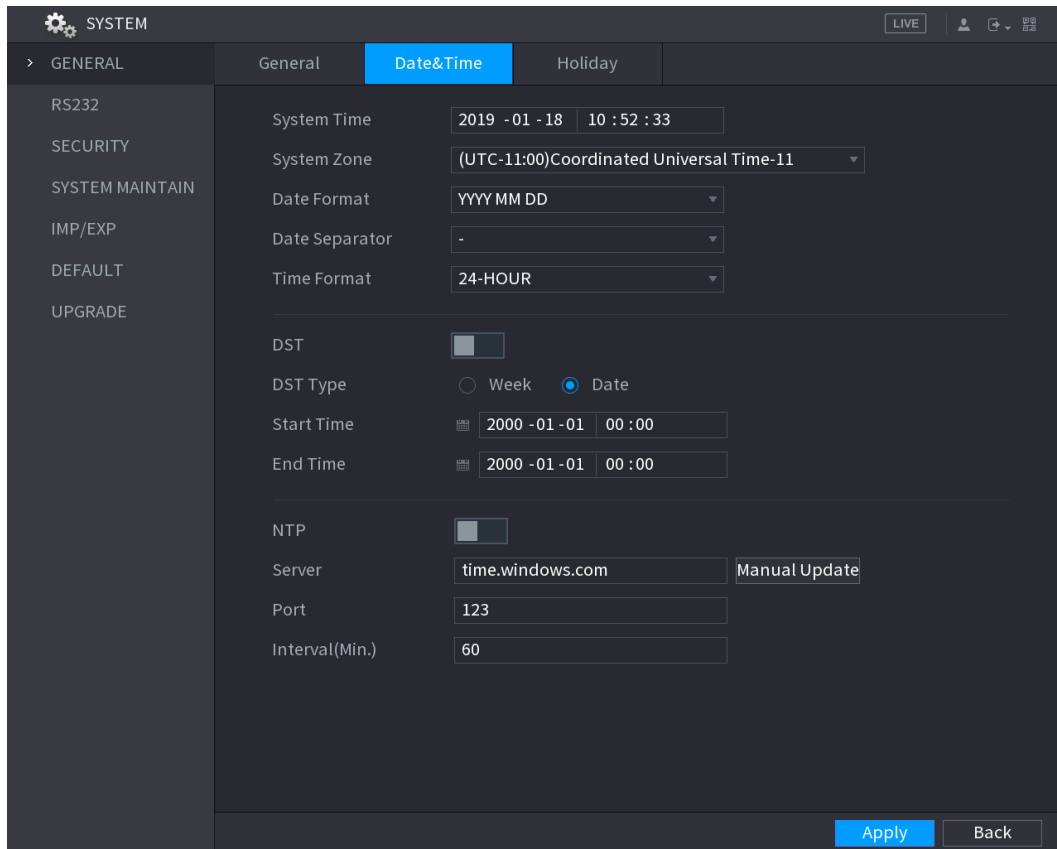

Figure 5-20
Step 1 After you have configured the general settings, on the **General** interface, click **Next**. The **Date & Time** interface is displayed. See Figure 5-20.